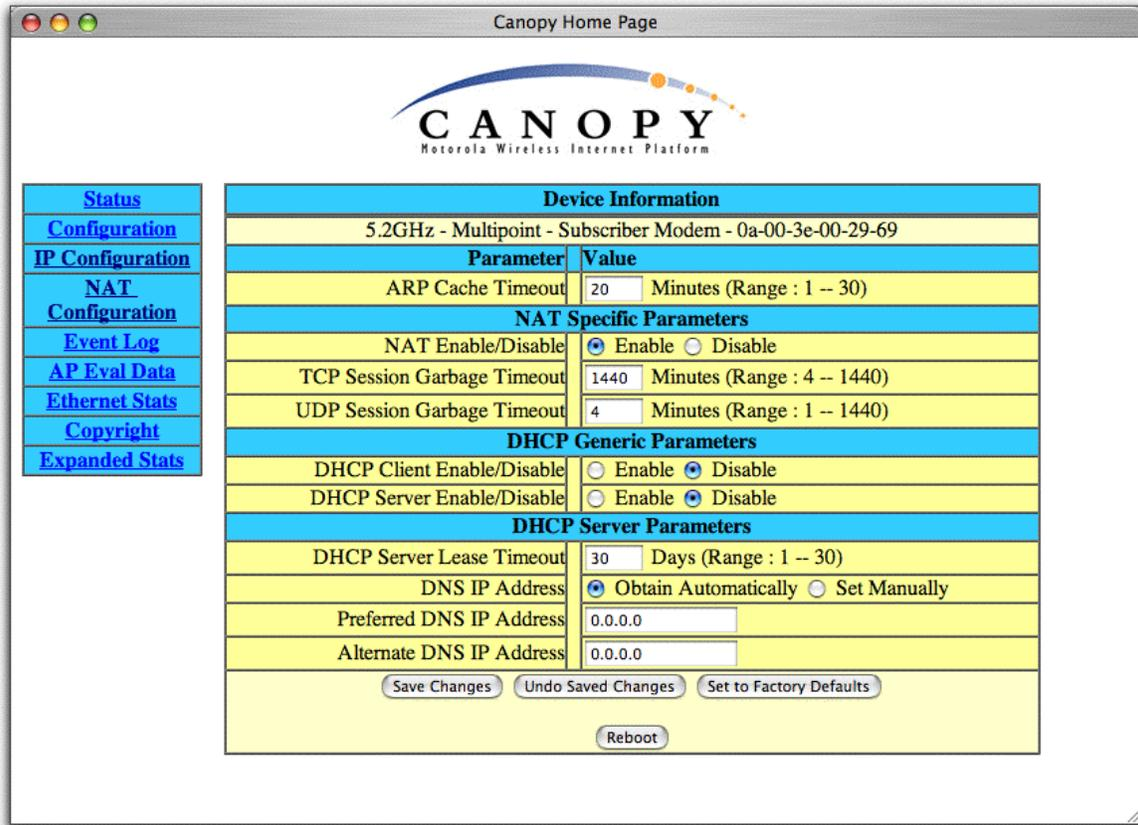

Figure 48: NAT Configuration screen, NAT without DHCP
- Figure 48 on Page 104 for the NAT without DHCP implementation.